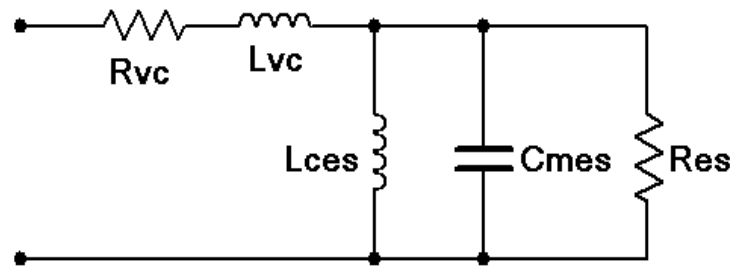

Figure 15.1
1. Figure 15.1 shows a typical model of a dynamic moving voice coil loudspeaker mounted on an infinite baffle¹. R_{vc} and L_{vc} represent the resistance and inductance of the voice coil. L_{ces} represents the driver compliance (i.e., springiness of suspension and air), C_{mes} represents the driver's mass, and R_{es} represents the frictional losses of the suspension. At DC, the impedance will equal R_{vc} . At high frequencies L_{vc} will dominate the response. The parallel resonant portion will create an impedance peak in the bass. This is normally referred to as the free air resonance of the driver, or f_s .
7. Swap the woofer with the general purpose loudspeaker and repeat steps 2 through 6 using Tables 15.4 through 15.6. Plot the magnitude and phase of each device on semi-log paper. Also, try to estimate values for the schematic model of Figure 15.1.